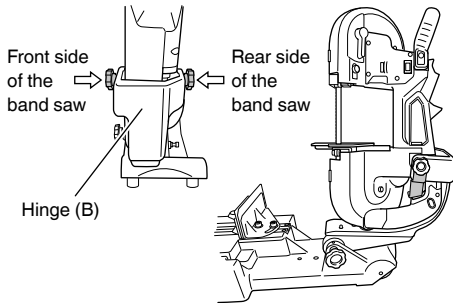

Fig. 5
- (7) Check that the D6 knob bolt on the rear side is correctly tightened, and that the main tool unit is securely installed on the stand. (**Fig. 5**)